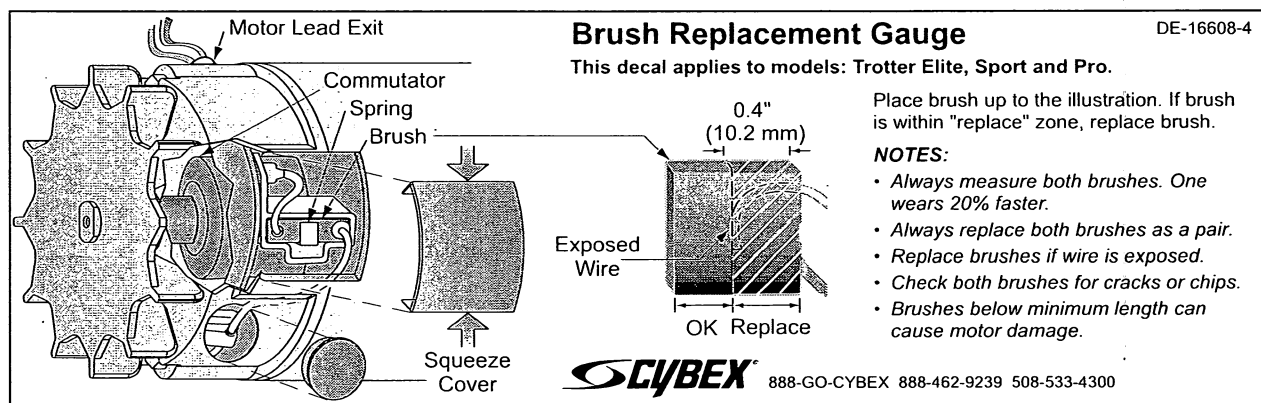

Figure 15
- A. Squeeze each of the two rectangular brush covers to remove it from the motor. See Figure 15.
- B. Lift off the round brush cover. See Figure 15. If necessary carefully pry the cover up using a flathead screwdriver.
- B. Inspect the brushes for signs of excessive wear or cracks. The motor brushes must be replaced if one or both is worn to 0.4" (10.2 mm) or less in length, is broken or chipped, has a broken spring or binds in the motor. **NOTE:** *For your convenience the decal shown in Figure 15 is under the motor hood cover.*